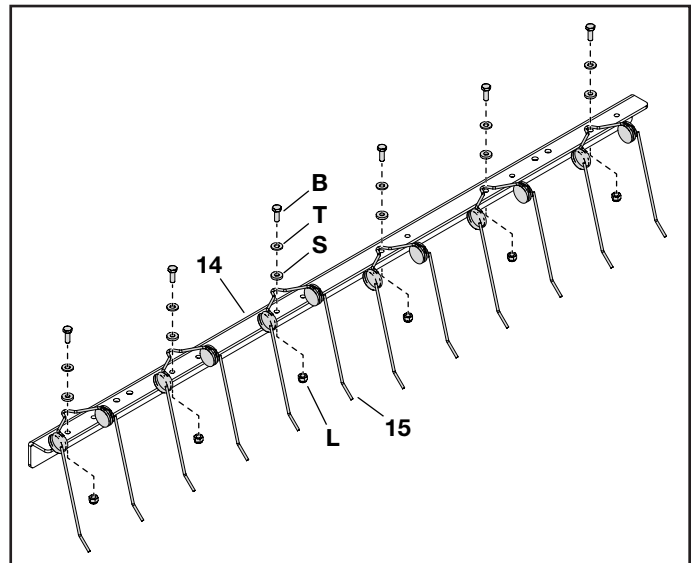
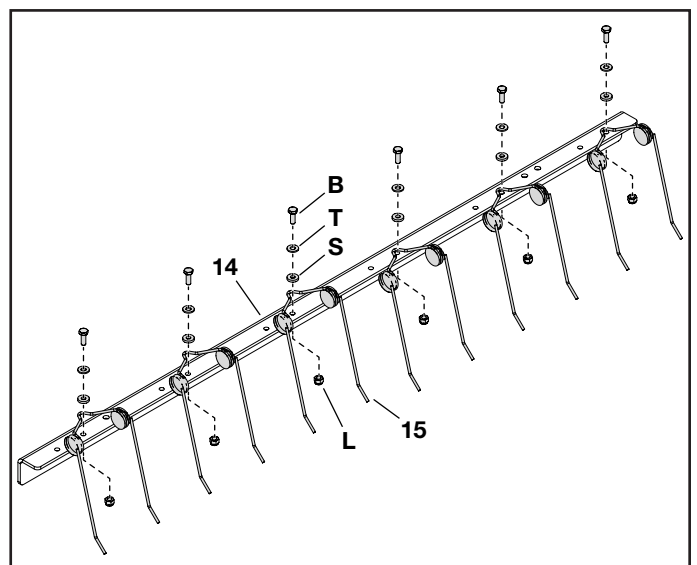

FIGURE 11a
FIGURE 11b
- On one tine mount bracket (14), attach six thatcher springs (15) using six hex bolts (B), six washers (T), and six rubber washers (S). See figure 11a.
- Secure hex bolts (B) and washers using six Nylock hex nuts (L). Part L should be flush with the end of bolt.
- On second tine mount bracket, attach six thatcher springs (15) in a staggered pattern from first tine mount bracket using six hex bolts (B), six washers (T), and six rubber washers (S). This will ensure the thatcher springs (15) are not directly in front of tines on first tine mount bracket. See figure 11b.